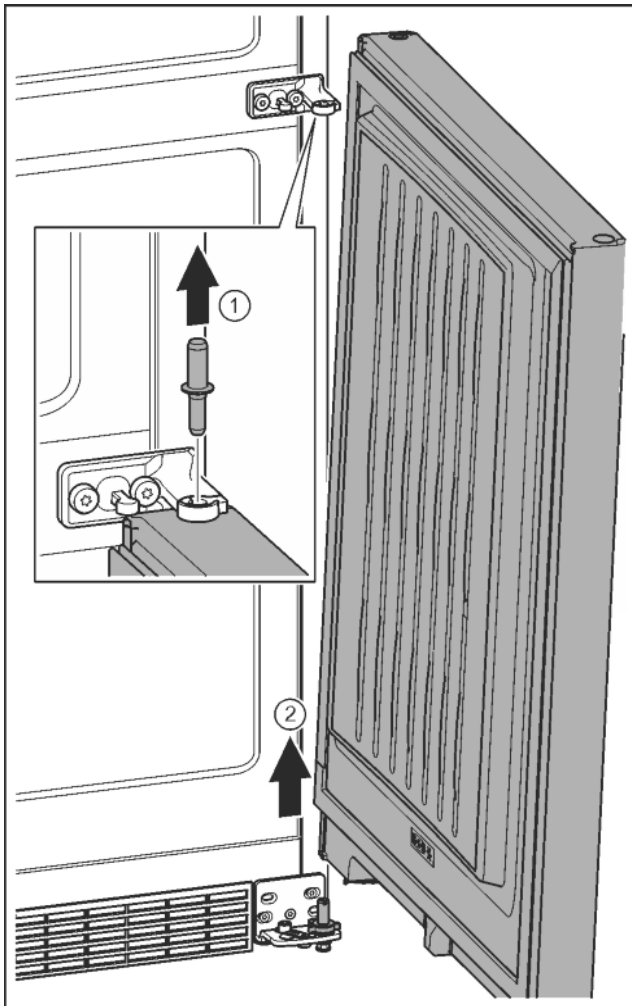

Fig. 10
- ▶ Pull out the bolts towards the top. Fig. 10 (1)
- ▶ Swing the door out, pull it upwards and set it aside. Fig. 10 (2)